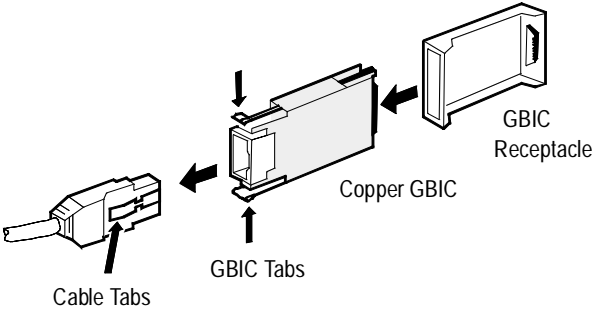
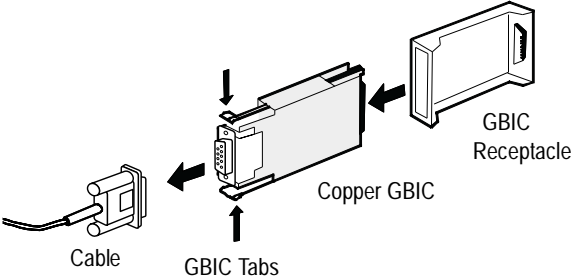

Figure 6. Removing the HSSDC GBIC Module
Figure 7. Removing the DB9 GBIC Module
- b If you are using the HSSDC copper cable, squeeze the tab on the cable to remove. See Figure 6 on page 10.
- c If you are using the HSSDC or the DB9 copper GBIC, squeeze the tabs on both sides of the GBIC. See Figure 6 on page 10 or Figure 7 on page 10.
- d If you are using the DB9 copper cable, loosen the screws on either side of the cable connector and pull out to remove. See Figure 7 on page 10.